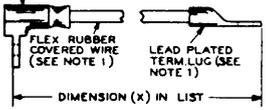

FIG. 2
1.02 Connectors: The rubber covered cable connectors are equipped with cast alloy terminals and shall be installed to re-place the present wiring as indicated on Figs. 2 to 11.
1.04 Wiring Changes: Arrangements have been made to modify the wiring of stock cabinets at the supply house. Similar wiring modifications will have to be made in the field on existing installations as indicated on Figs. 2, 3, 4, 5, 6 & 7, when glass jar batteries are furnished.